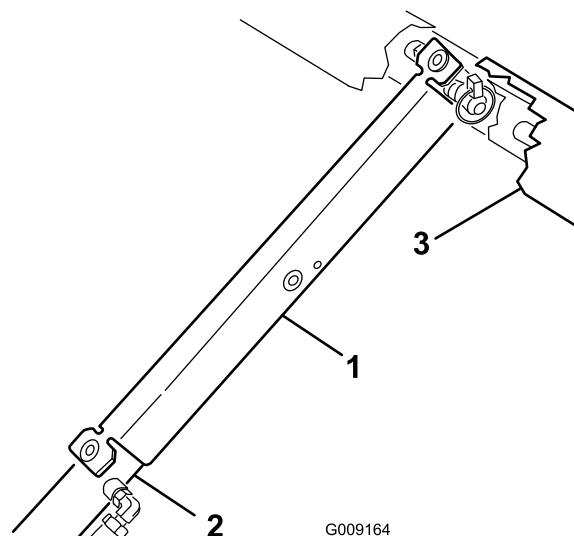

Figure 27
3. Push bed support onto cylinder rod, making sure support end tabs rest on end of cylinder barrel and on cylinder rod end (Figure 27).